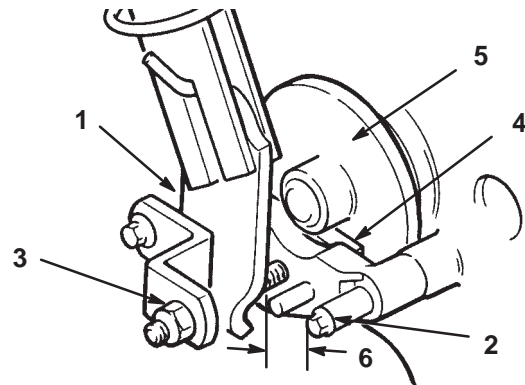

Figure 22
- Measure the distance between the disc brake actuating arm and stop pin on the axle bracket assembly (Fig. 22). The distance should be less than 1/4 in. (6 mm).
- If the distance is greater than 1/4 in. (6 mm), tighten the locknut to decrease the distance between the actuating arm and stop pin (Fig. 22).
- With the brake lever OFF, check the clearance between the brake pads and disc with a feeler gauge (Fig. 22). Proper clearance is approximately 0.01 in. (.25 mm).